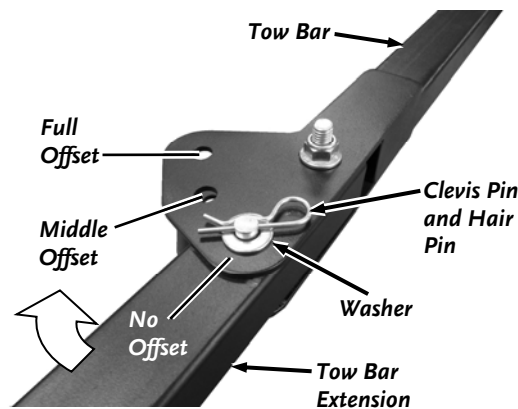

Figure 29
1. Remove the Hair Pin, Washer, and Clevis Pin that secures the Tow Bar Extension to the Tow Bar (**Figure 29**).